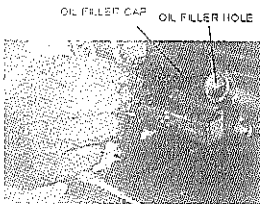

Figure 1- Unscrewing the oil cap
2. Unscrew the oil filler/dipstick cap from the engine as shown in figure 1.